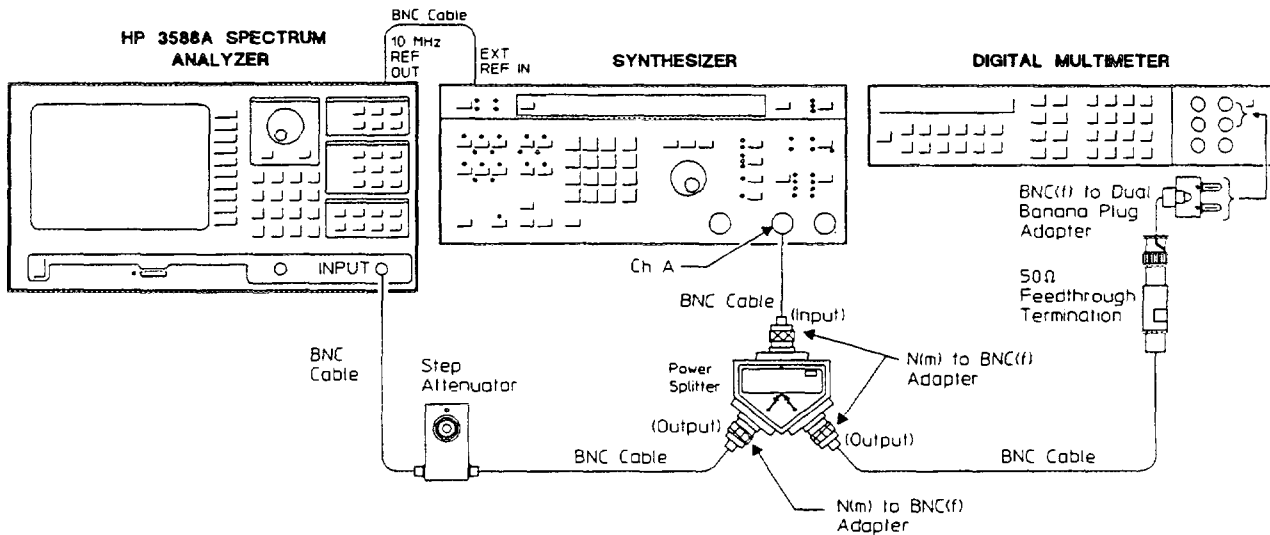

Figure 3-14. Log Scale Accuracy Setup
3. Connect the test equipment as shown in figure 3-14.